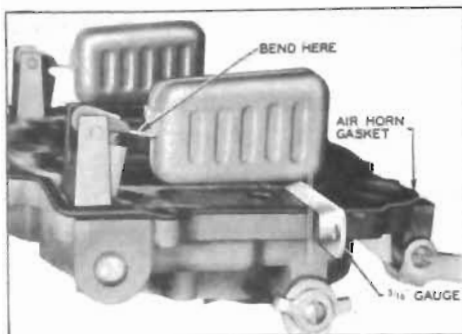

Figure 3-51—Checking Float Level
10. Adjust Float Level. (Use 1964-5 Carburetor Gauge Set J-21944.) With air horn inverted and air horn gasket in place, check clearance between each float (at outer end) and air horn gasket using 3/16" gauge or a 3/16" drill. See Figure 3-51. To